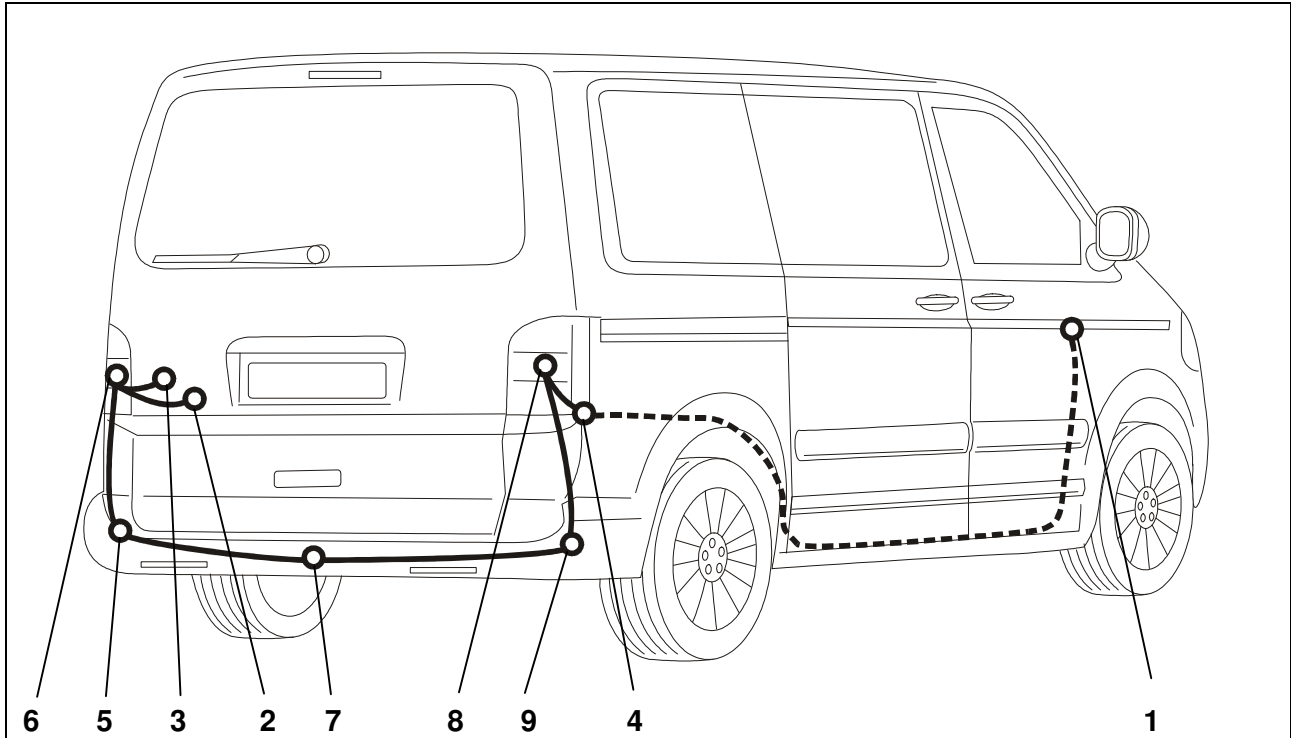

Fig. 1: Installation overview
3. Push the oval grommet to the inside near the left-hand tail light (Fig. 1/6) using the cable harness.
4. Remove the blanking plug of the cable leadthrough (Fig. 1/5).
5. Push a solid wire through the bottom cable leadthrough (Fig. 1/5) to the top cable leadthrough for the tail light (Fig. 1/6) until it comes out of the top cable leadthrough.
7. Pull the socket end of the cable harness through the cable leadthroughs to the bottom to the socket holder plate (Fig. 1/7).
12. Connect the remaining cables to the socket housing in accordance with the *Socket pin assignment plan* (Fig. 1/7) and push the rubber grommet towards the socket.
13. Screw the socket onto the holding plate (Fig. 1/7) using the supplied screws.
15. Insert the grommet properly into the cable leadthroughs (Fig. 1/5+9).
16. Push the pre-cut foamed material piece included in the scope of supply on the left-hand tail light plug (Fig. 1/6).
17. Connect the plug of the left-hand tail light (Fig. 1/6) with its counterpart on the cable harness. Make sure that the plug locks firmly into place. Push the pre-cut foamed material piece over both plugs.
19. Connect the brown wire with the eyelet to the ground point (Fig. 1/2) above the vehicle's coupling spot.
On vehicles with PDC it is possible to deactivate the PDC control unit for trailer operation. The PDC control unit (Fig. 1) is located next to the steering column.
20. Connect the separate brown/white wire to the free brown/white single wire (Fig. 1/4) of the cable harness and lay it to the PDC control unit (Fig. 1/1) along the vehicle's cable harness.
21. Unlock the 16-pin plug from the PDC control unit (Fig. 1/1) and disconnect it.
24. Insert the large oval grommet where the cable comes out at the top into the left-hand top cable leadthrough (Fig. 1/6).
26. Repeat the following steps on the right-hand side (Fig. 1/8): 15, 16, 17, 18, 25, 26